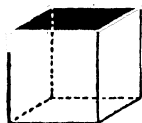

Fig. 5. A 1-Foot Cube.
45. Cubic Measure. The volume of any solid is obtained by *cubic measure*. The unit of volume is a cube, Fig. 5, each edge of which is some unit of length; for example, the cubic inch, cubic centimeter, cubic foot are common units of volume.
In Sec. 44 it was proved that the area of a square surface increases as the second power of the side of the square; *i. e.*, a surface 2 feet square was found to cover 2×2 or 4 sq. ft. of area. In the same manner, Figs. 5 and 6 show that a 2-foot cube has $2 \times 2 \times 2$ or 8 cubic feet of volume; *i. e.*, the volume of a cube increases as the third power of the length of the side.